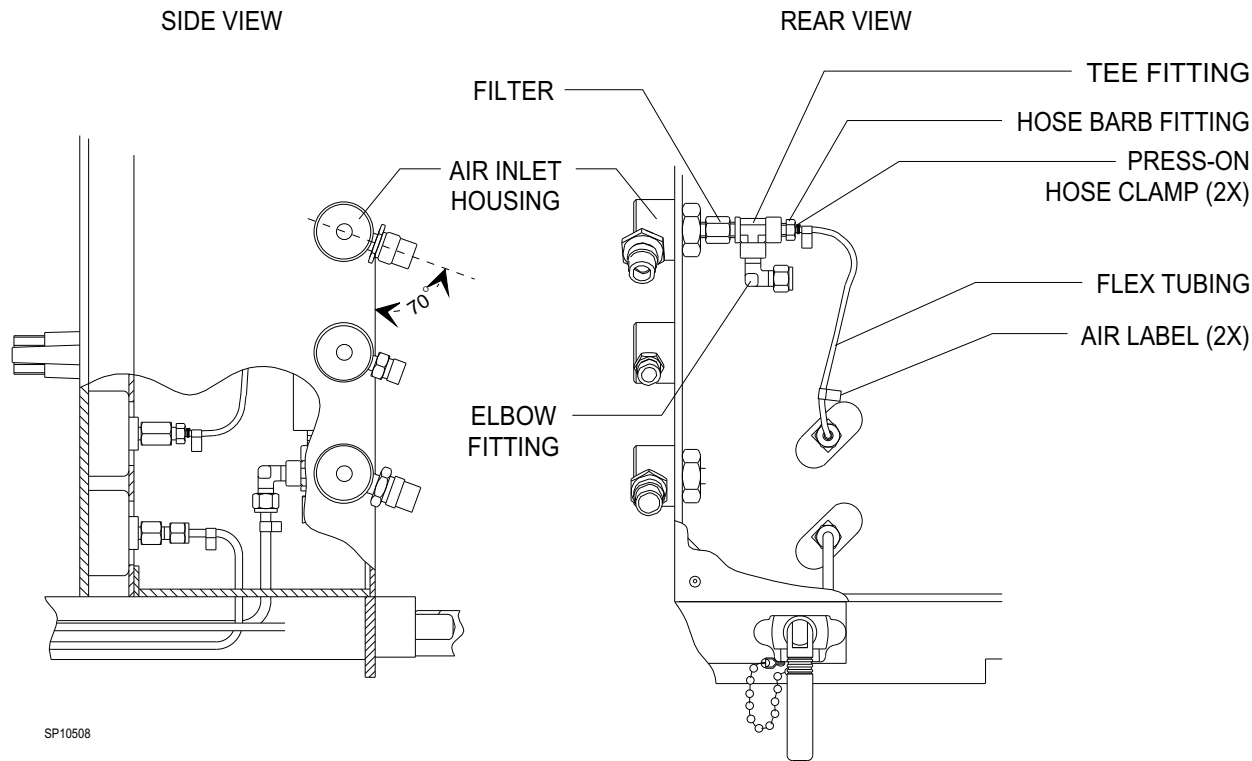

**Figure 7: CO2 CYLINDER REGULATOR MOUNTING AND H.P. CONNECTIONS**
60. Position the CO2 cylinder pressure regulator assembly (consisting of P/Ns 4103591, 4109415, 4102906 x2, 4109409, and 4109401) as shown in Figure 7, with the Inlet marking toward the front of the machine.